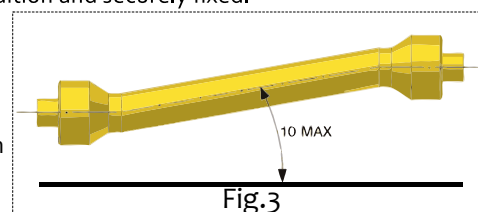

Fig.3
- Disengage the PTO when the driveline is at an excessively wide angle (never more than 10 degrees, Fig. 3) and when it is not used.